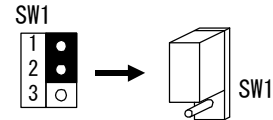

Fig. 2-3-3 Changeover of SW1
- ① These terminals connect between master and slave when using 2 DB units.
- ② To reduce the noise effect from outside, use twisted wires as short as possible (1.5m or less).
- ③ Change over the settings of master and slave in the DB units with SW1 on the PCB as shown in Fig. 2-3-3.
- ④ When using single DB unit, set the SW1 as shown in a).
- ⑤ Do not short-circuit not used terminals.